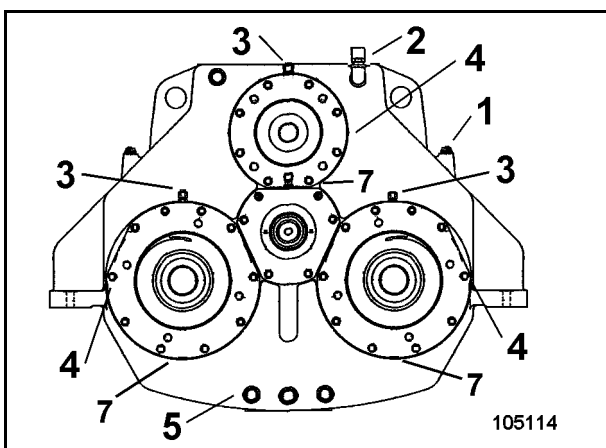

Fig. 3-103:
- Unscrew dipstick (1, Fig. 3-103:) and wipe.
- Insert dipstick (1) fully again and withdraw a second time.
- Screw out dipstick (1, Fig. 3-103:) and wipe clean.
- Insert dipstick (1) fully again (do not screw in) and withdraw a second time.